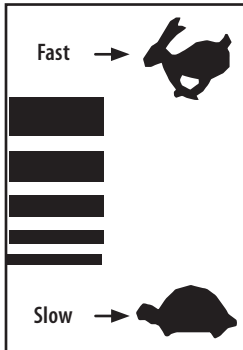

Figure 5
5. Move the throttle control into the FAST (rabbit) position (Figure 5).
6. Move the throttle control into the FAST (rabbit) position (Figure 5).